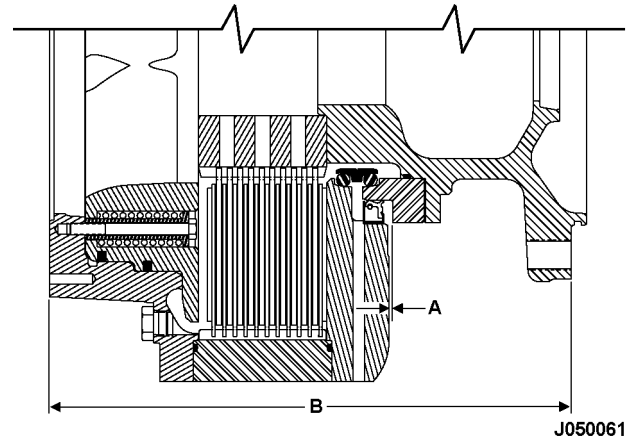

FIGURE 5-12. SEAL GAP ADJUSTMENT
27. Adjust the seal gap. Refer to Figure 5-12.